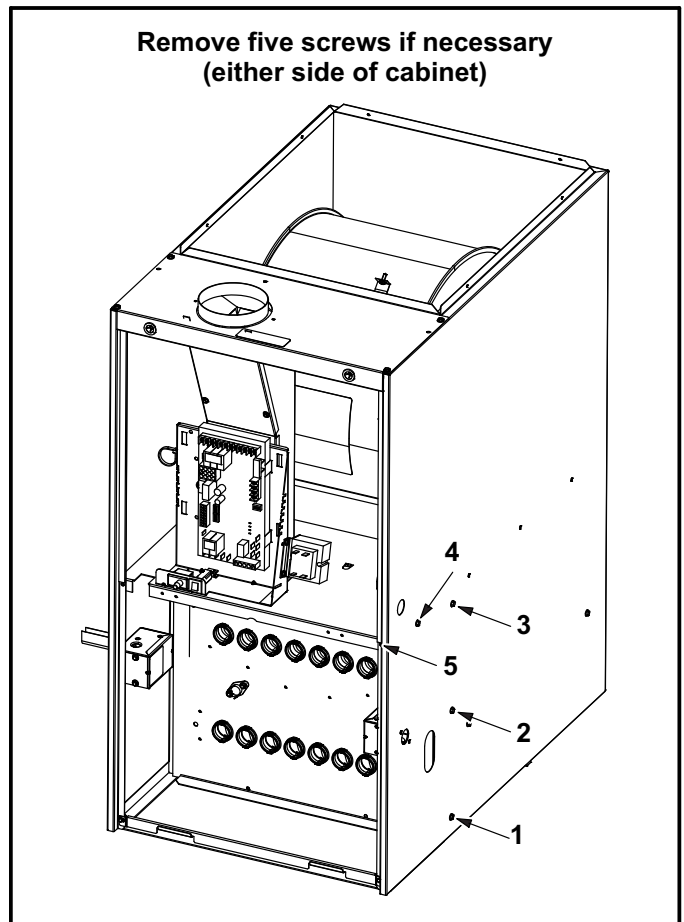

FIGURE 24
- 7 - Remove heat exchanger. It may be necessary to spread cabinet side to allow more room. If so, remove five screws from the left side or right side of cabinet. See figure 24.
- 9 - To clean burner, remove from the air gas plenum and run a vacuum cleaner over the face of burner. Visually inspect inside the burner for any blockage caused by foreign matter. Remove any blockage. Figure 24 shows burner detail. Replace gasket between burner plate and air fuel plenum then re-install burner plate.